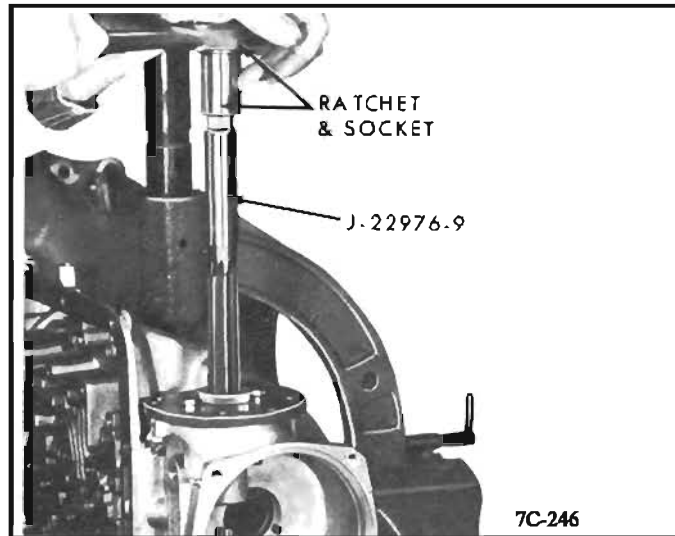

Figure 118 Reamer
b. Use 7 lbs. of feeding force on the reamer. See Figure 118.